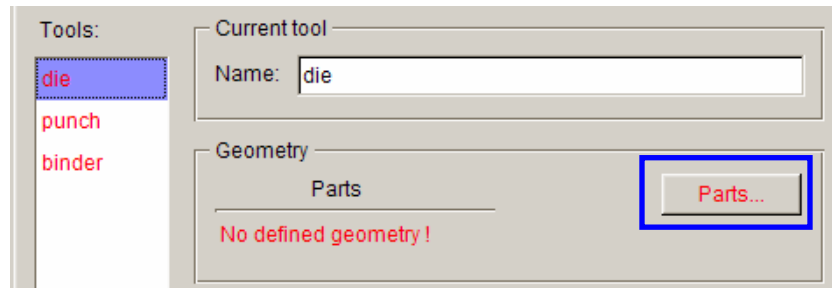

Figure 73: Tool definition page
4. From **die** interface illustrated in Figure 73, select **Parts...** button to assign a part as die.